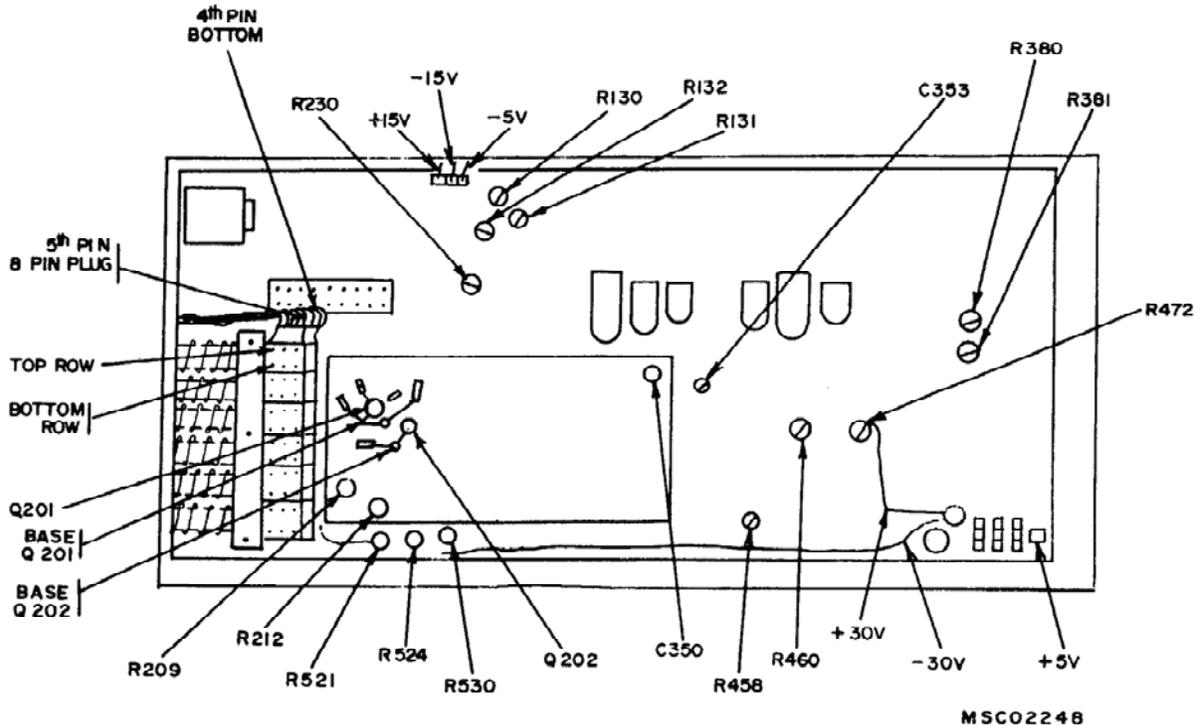

Figure 1. Test instrument - right -side view.
(1) Set **CH1 VOLTS/DIV** switch to **50 mV**.
(2) Press **CH1** pushbutton and set **DELAYING SWEEP** and **DELAYED SWEEP** to **1 μ S**.
(3) Connect oscilloscope calibrator **SOURCE/MEASURE CHAN 1** to **CH1 INPUT**.
(4) Adjust oscilloscope calibrator level sine output frequency for 1 MHz and amplitude for 2 divisions of vertical deflection.
(5) Adjust **TRIGGERING LEVEL** control for stable display.
(6) Alternately press and release **+SLOPE** pushbutton. If display does not remain stable and white dot on **TRIGGERING LEVEL** control does not indicate between 11 and 1 o'clock positions, perform **b** below.
b. Adjustments. Set **TRIGGERING LEVEL** control to 12 o'clock position and adjust R212 (fig. 1) for stable display while pressing and releasing **+SLOPE** button.
- (1) Connect multimeter negative lead to base of Q201 (fig. 1) and positive lead to base of Q202 (fig. 1).
- (2) Adjust R530 (fig. 1) for 0 (zero) voltage indication on multimeter.
(1) Remove oscilloscope calibrator from equipment setup.
(2) Press **AUTO TRIG** pushbutton and turn **TRIGGERING LEVEL** control fully cw.
(3) Connect multimeter negative lead to base of Q201 (fig. 1) and positive lead to base of Q202 (fig. 1).
(4) Adjust R524 (fig. 1) for a +60 mV dc indication on multimeter.
(5) Turn **TRIGGERING LEVEL** control ccw and adjust R521 (fig. 1) for a -60 mV dc indication on multimeter.
(1) Connect oscilloscope calibrator **SOURCE/MEASURE CHAN 1** to **CH1 INPUT**.
(2) Set **TI CH1 VOLTS/DIV** switch to **50 mV** and press **INT CH1** and **HF SYNC** pushbuttons.
(3) Adjust oscilloscope calibrator frequency for 100 MHz and amplitude for one half division of vertical deflection.
(4) Adjust **LEVEL** control for stable display on oscilloscope. If display does not stabilize with **LEVEL** control, perform **b** below.
b. Adjustments. Preset **TRIGGERING LEVEL** control fully ccw and adjust R209 (fig. 1) fully ccw and then slowly cw until display synchronizes.
- (1) Adjust R132 (fig. 1) to align one marker per each vertical graticule line (R).
- (2) Adjust R130 and R131 (fig. 1) until first dot is aligned on first graticule and 2^d dot is aligned on 11th graticule (R).
Due to interaction, R130 (fig. 1) and R131 (fig. 1) must be readjusted for best compromise.
- (3) Adjust R460 (fig. 1) to align 1 marker per each vertical graticule line (R).
- (1) Connect oscilloscope calibrator **SOURCE/MEASURE CHAN 1** to **CH1 INPUT**.
- (2) Set oscilloscope calibrator to 10 mS markers output.
(3) Press **HF SYNC** pushbutton and release **INT CH1** pushbutton. Adjust **SCAN** control ccw until time markers stop drifting in one direction. The first point at which time markers stop drifting, oscilloscope will display three time markers. If oscilloscope does not display three time markers, perform **b** below.
b. Adjustments. Adjust R381 (fig. 1) until oscilloscope displays 3 time markers drifting toward right on crt.
(1) Release **SWP** pushbutton and adjust R472 (fig. 1) until a marker is aligned on 2^d vertical graticule line.
(2) Press **SWP** pushbutton and adjust R230 (fig. 1) until first narrow time mark is aligned on 2^d vertical graticule line.
(3) Repeat **a** (3) and **b** (1) and (2) above for best compromise.